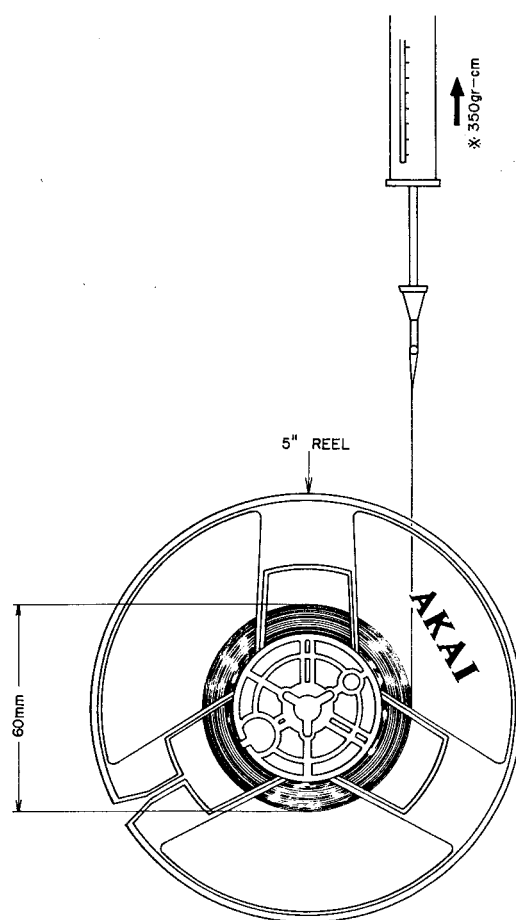

Fig. 3
4. BRAKE TENSION ADJUSTMENT (Refer to Figs. 3 and 4)
1) As shown in Fig. 3, use a 60 mm diameter of tape wound on a 5" reel and set both left and right brake tension to approximately 350 gr-cm. Deviation of left and right tension must be within 50 gr-cm.